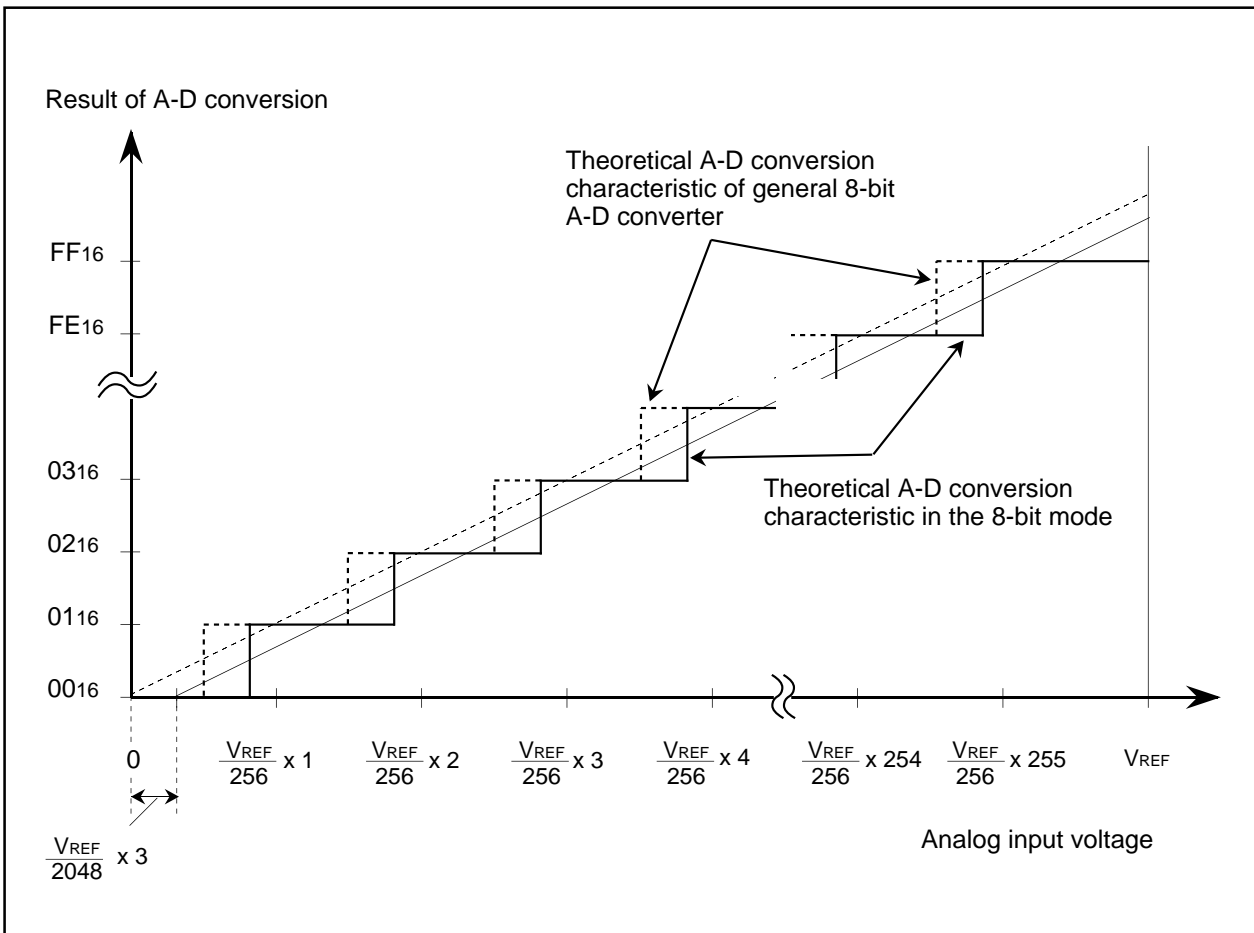

**Figure 2.7.18. The level conversion characteristics of 8-bit mode and 8-bit A-D converter**
(1) In 8-bit mode, 8 higher-order bits of the 10-bit successive comparison register becomes A-D conversion result. Hence, if compared to a result obtained by using an 8-bit A-D converter, the voltage compared is different by  $3 V_{REF}/2048$  (see what are underscored in Table 2.7.9), and differences in stepping points of output codes occur as shown in Figure 2.7.18.